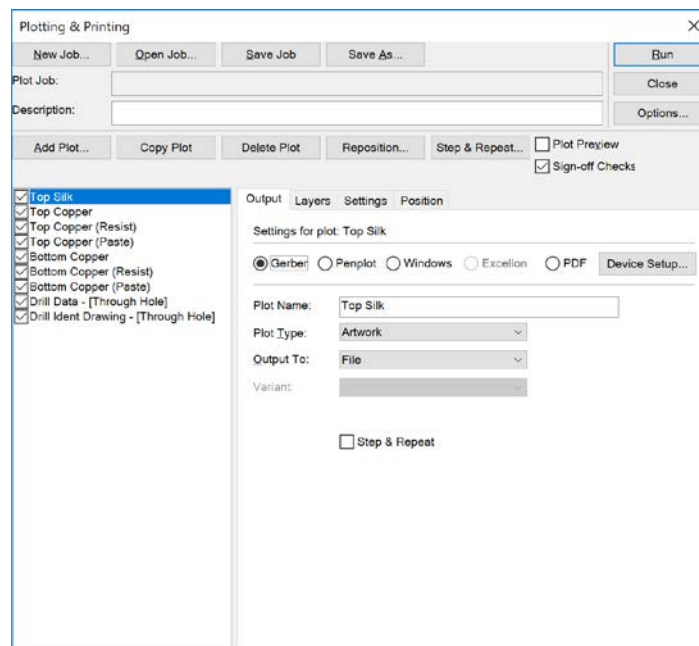

Figure 1 Plotting and Printing Dialog
2. You will now be presented with the dialog shown in Figure 1. This dialog shows you the list of layers used in your design.